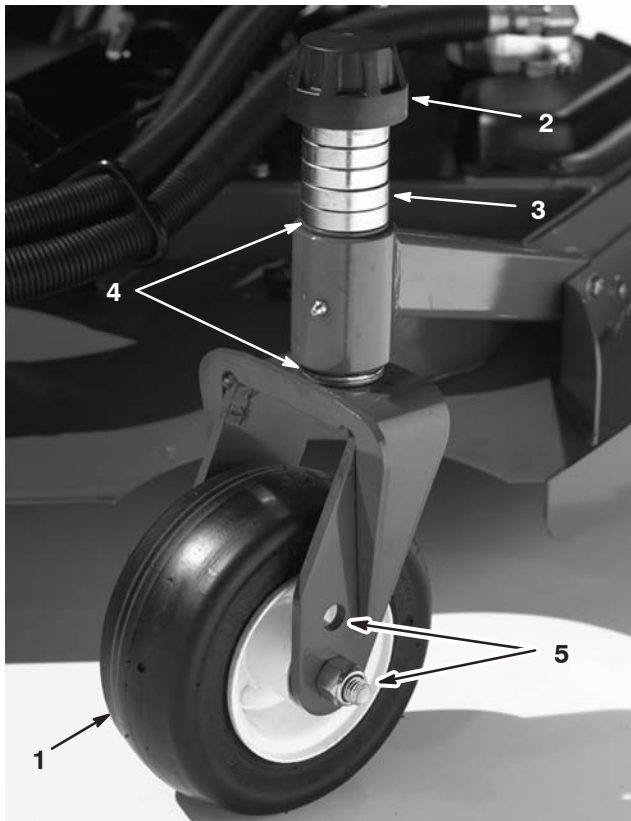

Figure 14
1. Position the castor wheel axles in the same holes in all of the castor forks (Fig. 14 & 16). Refer to the following chart to determine the correct hole for the setting.
2. Remove the tensioning cap from the spindle shaft (Fig. 14) and slide the spindle out of castor arm. Put the two shims (1/8 inch) onto spindle shaft as they were originally installed. These shims are required to achieve a level across the entire width of the cutting units. Slide the appropriate number of 1/2 inch spacers onto the spindle shaft to get the desired height-of-cut; then slide the washer onto the shaft.